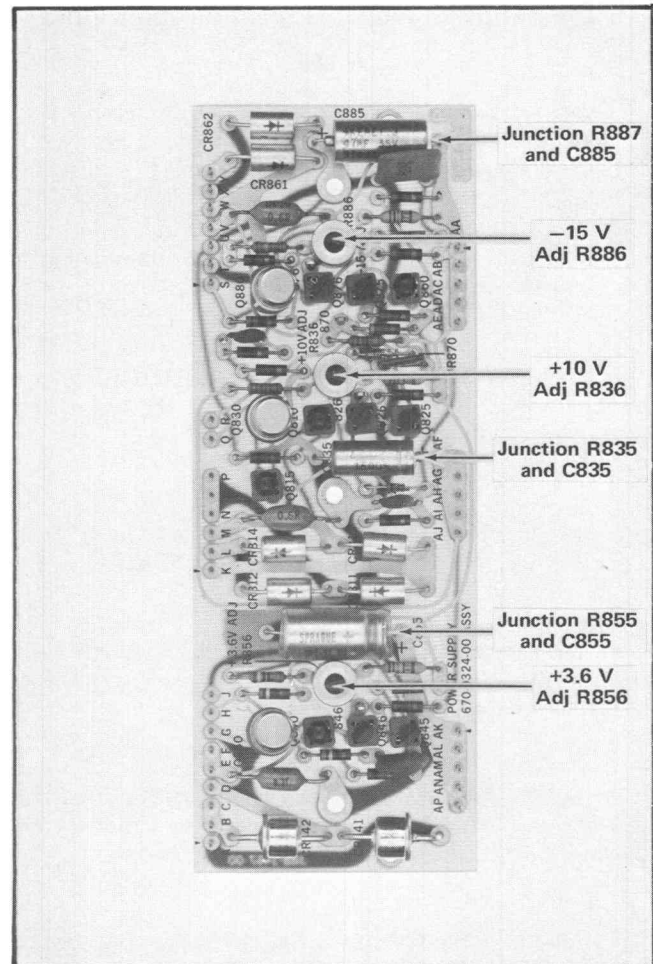

Fig. 5-2. Power Supply board test point and adjustment locations.
- b. Connect the common lead of the voltmeter to a convenient chassis ground point on the Type R140. Then, connect the positive lead to the junction of R887 and C885 (–15 volts) on the Power Supply board (see Fig. 5-2).
n. From the Type 1A5 B Input connector, connect a 1X probe to the junction of R887 and C855 (–15 V) on the Type R140 Power Supply board; see Fig. 5-2.